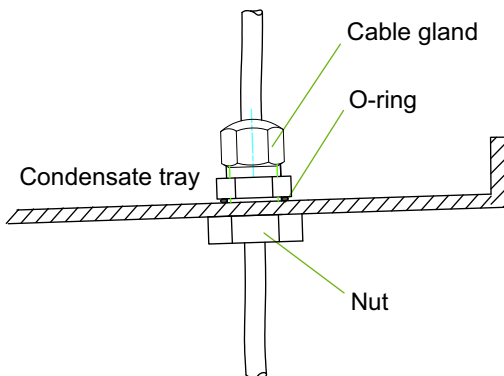

Fig. 1.4:
- 1) Drill a Ø 16 mm hole for an additional cable gland into the condensate tray close to an existing cable feedthrough and attach the supplied strain relief (see Fig.1.4 on pag. 2).